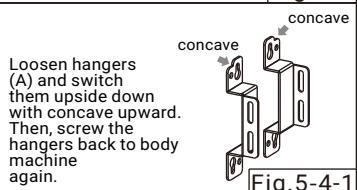

Fig. 5-4-1
(d) Loosen hangers (A) from body machine and switch hangers upside down with concave upward. Then screw the hangers back to machines at each side. Afterward, hang machine on the sleeve anchors and screw on screws tightly. (Fig 5-4-1)